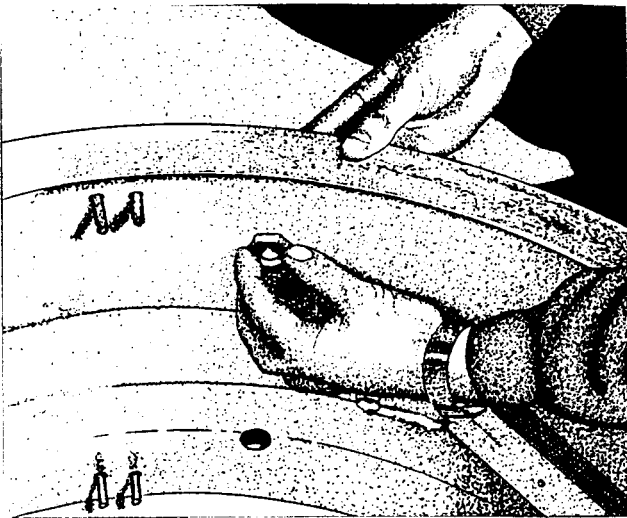

FIGURE 3
2. Refer to FIGURE 3. On the outside of the frame, insert the *brass end element inflation fitting* through the hole in the top channel of the frame.